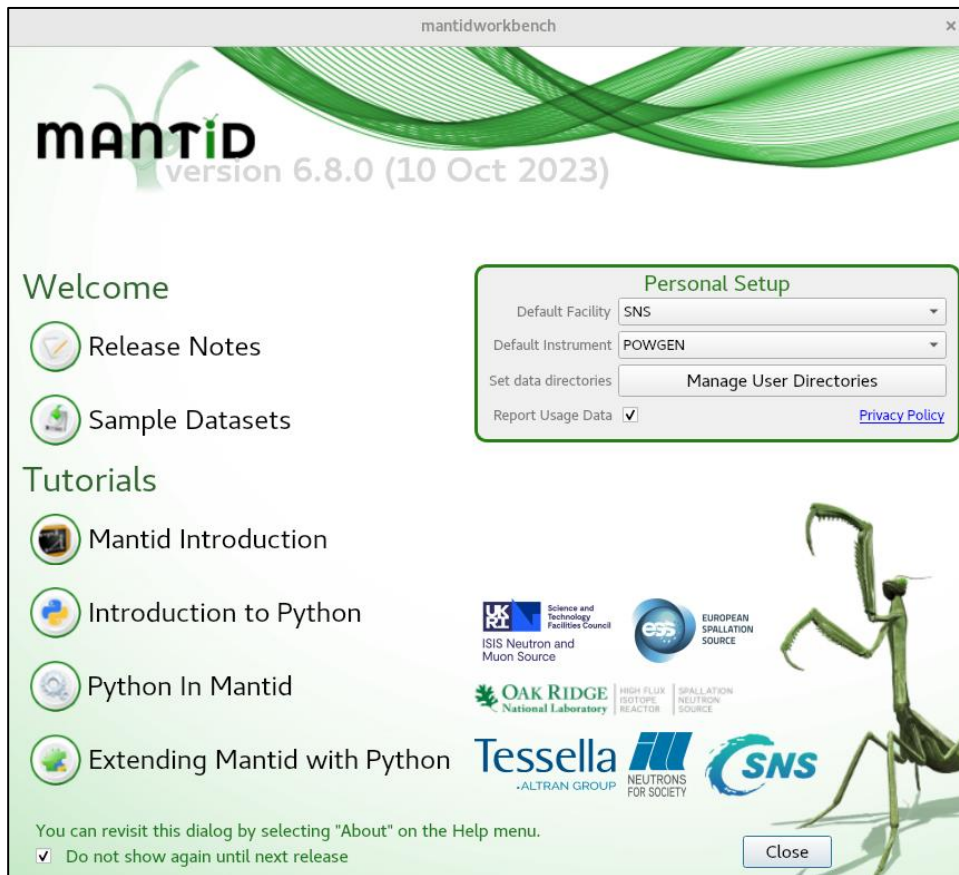

Figure 1. Mantid Workbench welcome screen. Select SNS as the default facility and POWGEN as the default instrument.
1.1.4. Once the welcome window appears (Figure 1), select *SNS* as the Default Facility and *POWGEN* as the Default Instrument.